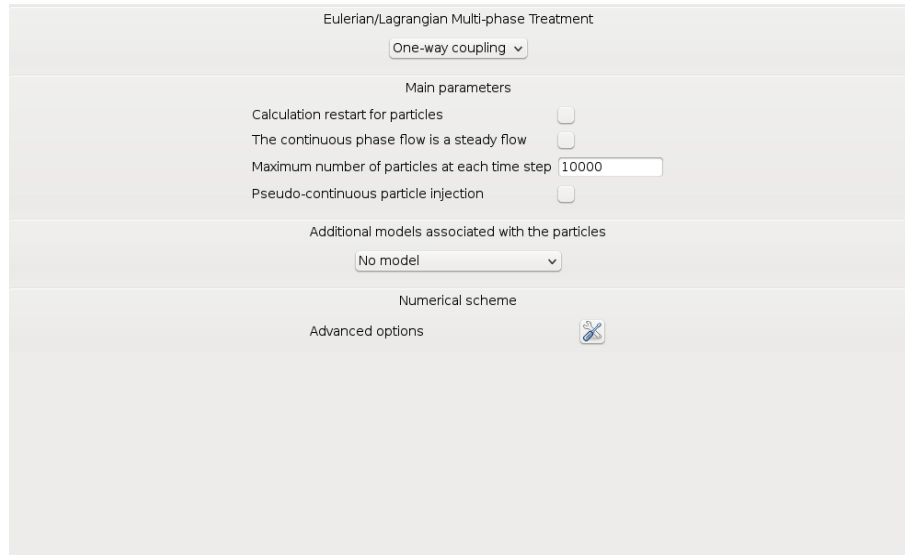
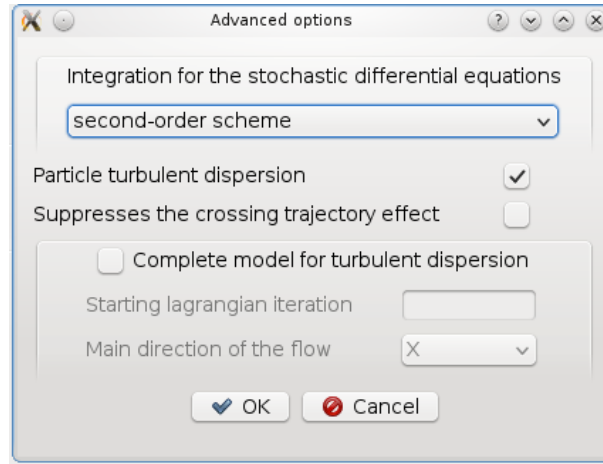

Figure 55: Lagrangian module - View of the Global Settings page
Figure 56: Lagrangian module - Global Settings, advanced numerical options
- **Global settings.** Here, the user defines the kind of Euler/Lagrange multi-phase treatment, the main parameters, the specific physics associated with the particles and advanced numerical options, see Figure 55 to Figure 56.